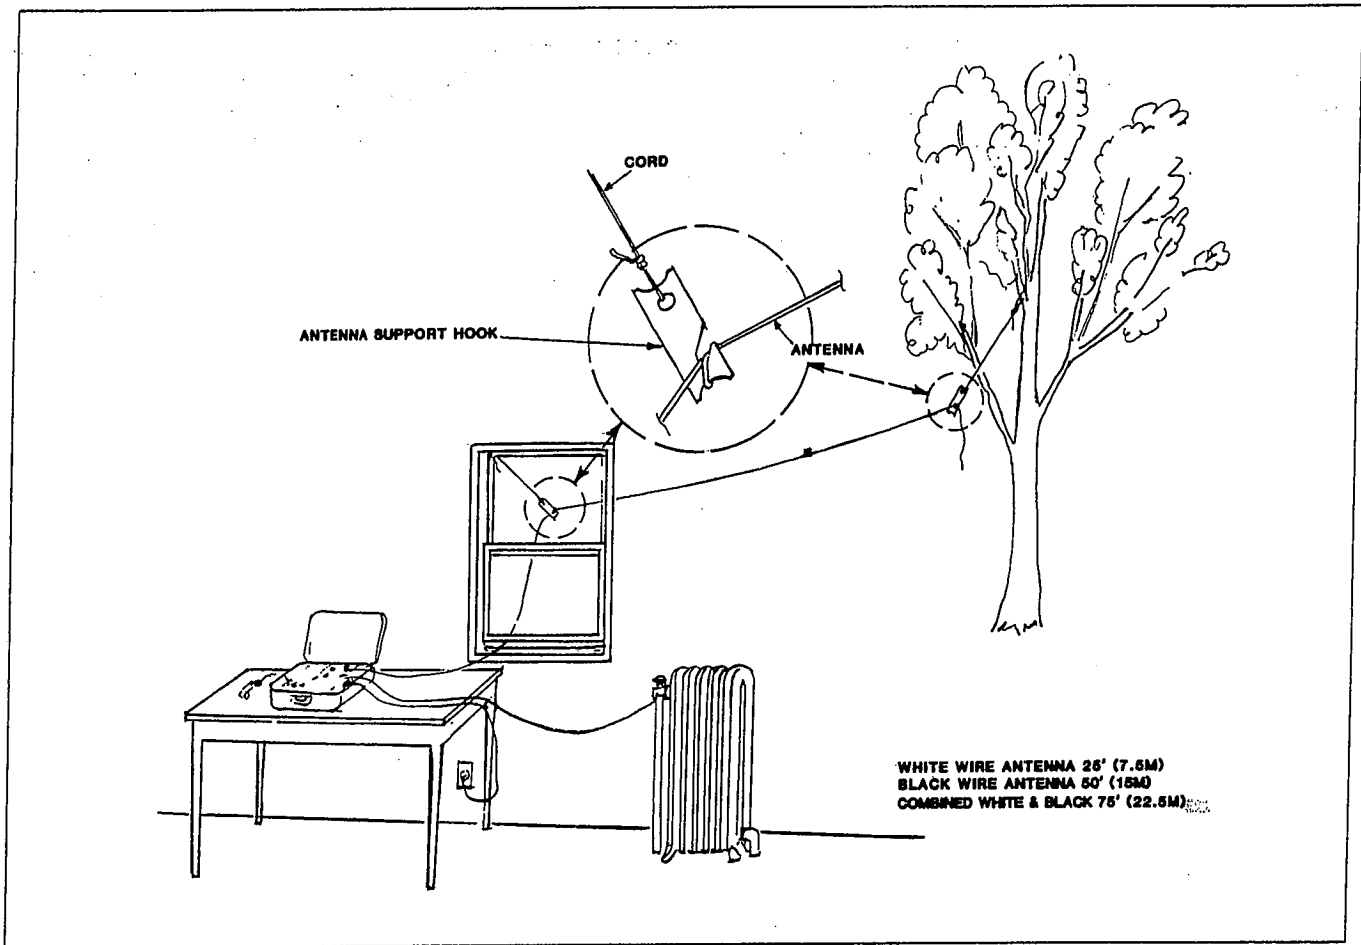

FIGURE 4-3. Example Of Transceiver Installation.
b) Location - The entire antenna radiates and it is important to keep it clear of all obstructions and as high as possible. Remember, the antenna radiates beginning at the connection on the transceiver, and if the first part of the antenna is close to obstructions, much of the radiated energy will be absorbed. In a hotel room or building, the transceiver should be located right at the window, as a ferro-concrete building will provide almost complete shielding. See the transceiver installation example, Figure 4-3. It is also important to keep the antenna as far away as possible from noise sources, such as power lines.